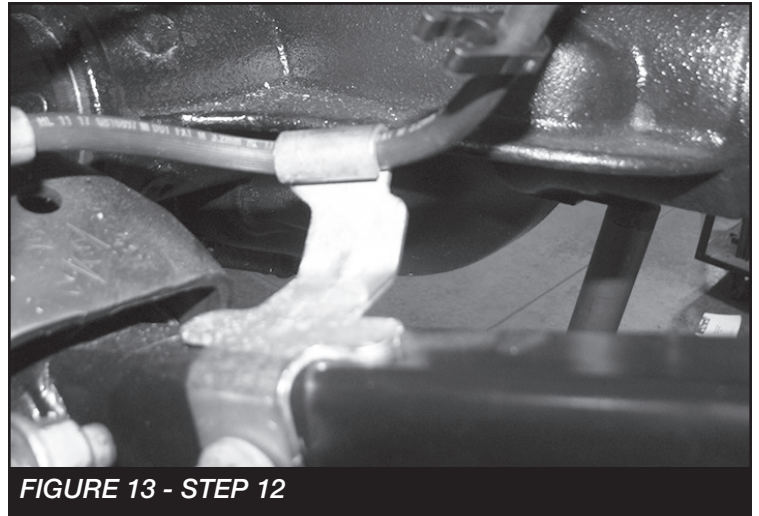

FIGURE 13 - STEP 12
12. Reconnect all brake line brackets with the factory hardware and torque 29 ft-lbs. **NOTE: Bend the lower link arm brake line bracket upward an inch to give the line some relief at full extension. If installing new link arms, bend and remove the bracket from the brake line. SEE FIGURE 13**